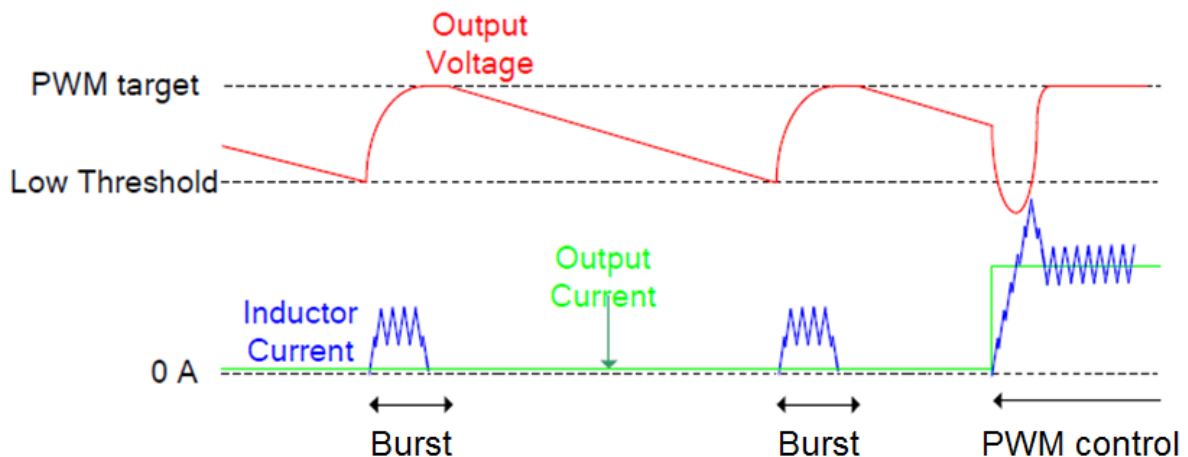

Figure 1: Principle of operation of the PFM mode in DA9210
- Negative DVC in PFM mode. In this case the condition for V_{OUT} spikes to happen is a long no switching time, means the time between two consecutive bursts is too long (see Figure 1).
- A shifted voltage on the hold capacitor causes a switching re-start with very high duty cycle, next time a switching burst is needed during PFM mode (see Figure 1). For this reason spikes may happen at V_{OUT} .